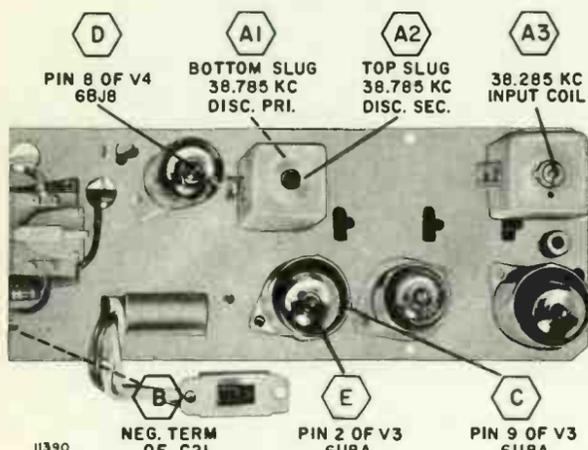

Figure 50. Partial Top View of Remote Amplifier Chassis 4G3 Showing Alignment Points and Adjustment Locations.
- Set Son-r Off-On switch to "ON" position. See figure 50 for location of adjustments and alignment points.